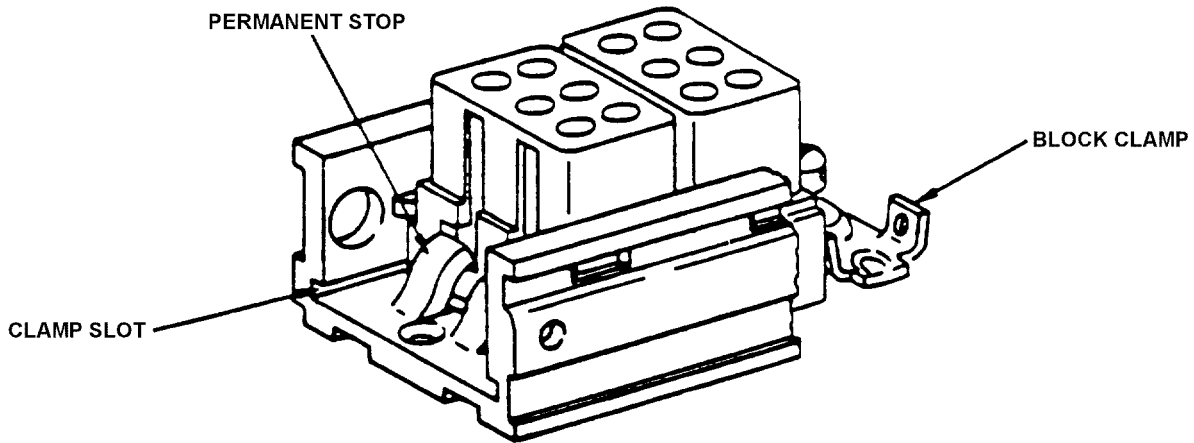

Figure 19. Feedback Terminal Junction Assembly
d. Install additional blocks as required, sliding each block against the last previously installed block (Figures 19 and 21).
e. Slide locking clamp against last block and tighten screw securely (Figures 19 and 21).